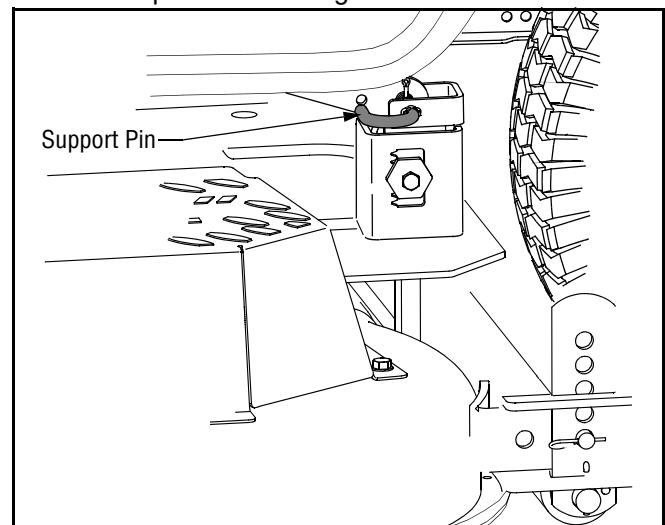

Figure 22
- Pull the deck support pin outward to release the deck from the deck lift arm. Then rotate the pin downward against rear deck hanger to lock in the release position. See Figure 22.